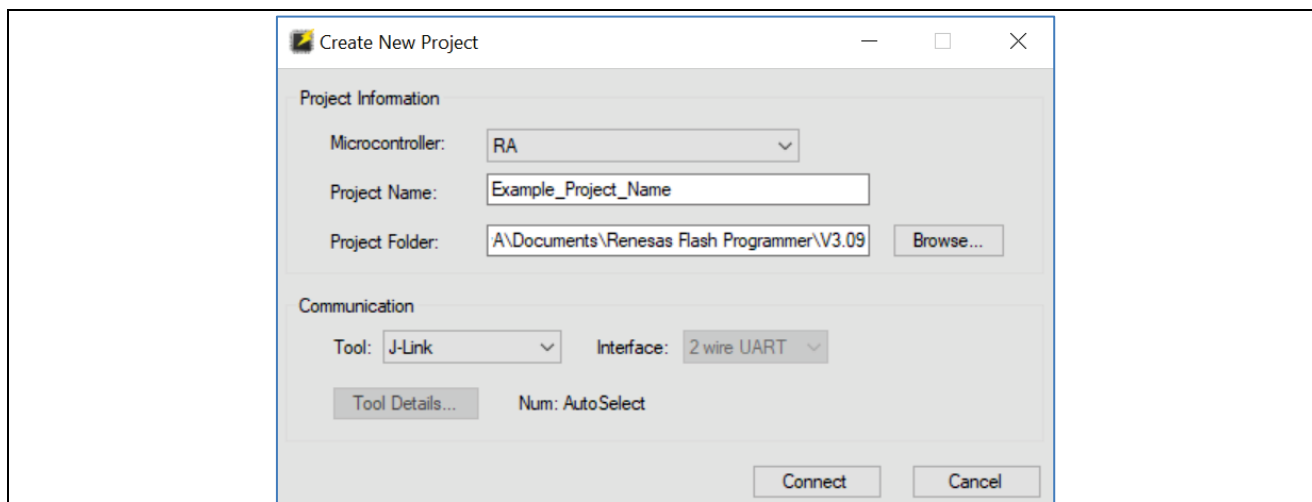

Figure 2. Creating a New Project on Renesas Flash Programmer
3. In the **Create a New Project** window (Figure 2), select the **RA** family from the Microcontroller drop-down menu. Next, enter the desired project name and select **J-link** for the communication tool. Click **Connect**.